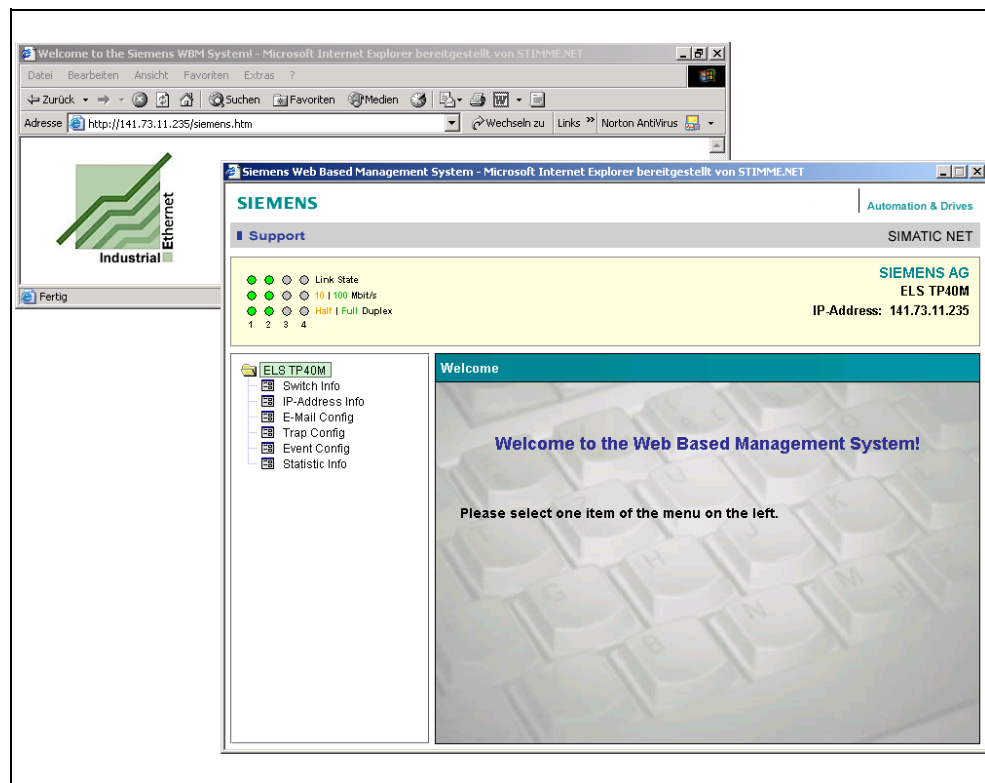

Figure 6-10 "Start" Window
3. A new window opens and the applet is loaded in it (see Figure 6-10).